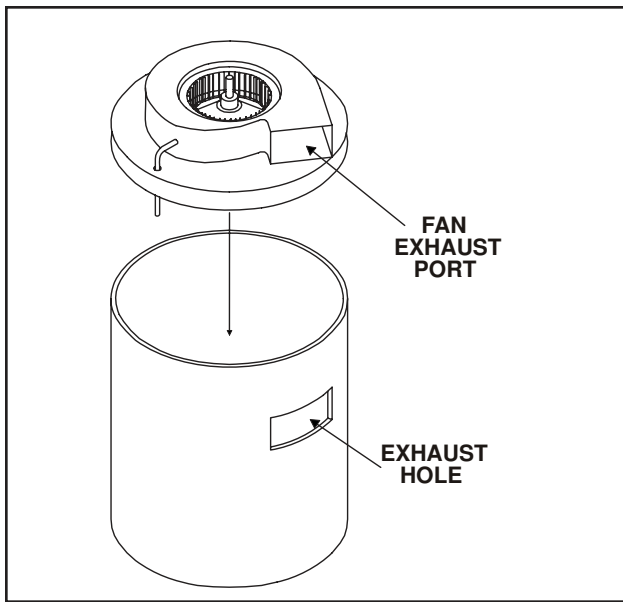

Figure 13.
- A. Slide the blower assembly into the 10-1/2 in. diameter collar, making sure that the exhaust port on the blower assembly lines up with the exhaust hole cut in the 10-1/2 in. diameter collar. See Figure 13.